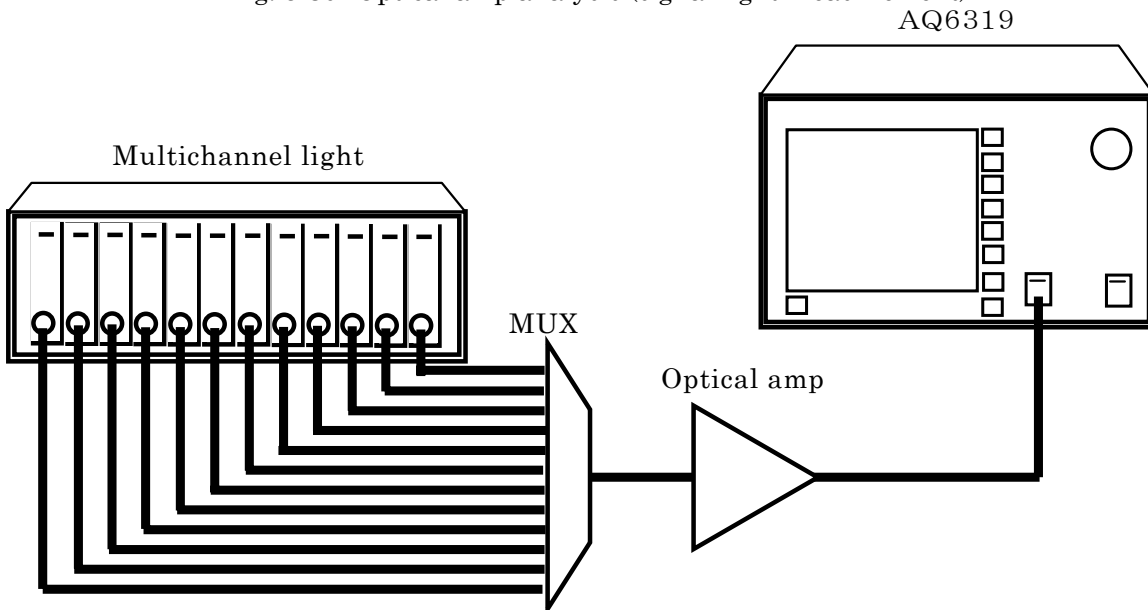

Fig. 5-31 Optical amp analysis (output light measurement)
- ① Input, to the unit, the output light from the optical amp. (Fig. 5-31)
- ② Set trace B as the active trace.
- ③ Perform sweeping and measure the output light waveform while maintaining the measurement conditions used during signal light measurement.